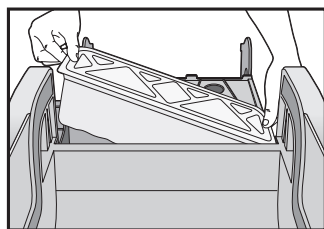

Fig. 11
- Press in on four corners of lid to secure lid to the Waste Receptacle, pull the Disposable Waste Receptacle edge free from the tabs holding it in place, lift out and dispose (Fig. 11).